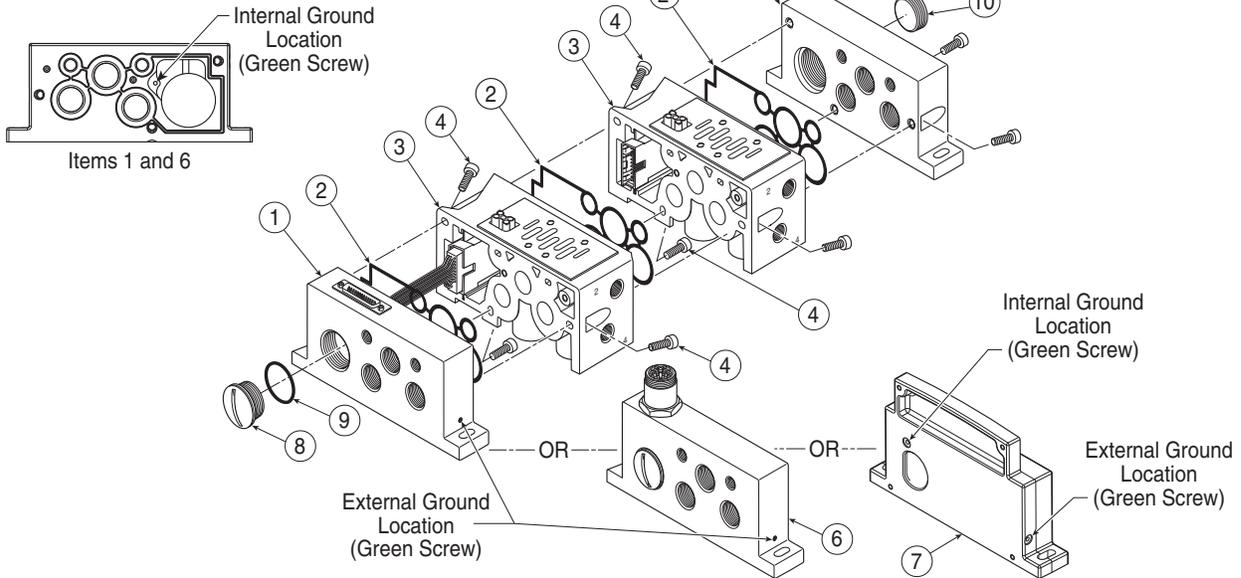

Figure 4 (H1 Valves Shown)
The Interconnect Wiring System (Figure 4 & 5) makes the electrical connection user friendly. Each individual manifold base carries its own connector circuit board which self aligns and plugs into the circuit board of the mating manifold base. The power is supplied at the left end of the stack (as you are viewing the cylinder ports) by means of a plug-in harness or serial module.
**For H1 Valves (See Figure 4)**